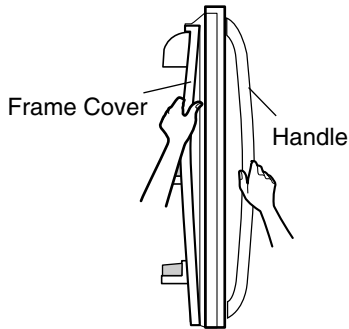
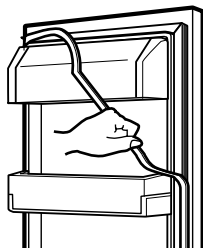

Figure 1
Figure 3
1. Disconnect water supply tube by pushing back on the disconnect ring (4).-FIG. 1
2. Open door. Loosen top hinge cover screw (1).
- Use flat tip screwdriver to pry back hooks on front underside of cover (3). Lift up cover.
3. Disconnect door switch wire harness (2).
5. Disconnect the three wire harnesses (5). Remove the grounding screw (6).
6. Rotate hinge lever (7) counterclockwise. Lift top hinge (8) free of hinge lever latch (9).
▶ Right Door -FIG. 3
1. Open door. Loosen top hinge cover screw (1). Lift up cover (2).
3. Disconnect wire harness (3).
4. Remove the grounding screw (4).
5. Rotate hinge lever (5) clockwise. Lift top hinge (6) free of hinge lever latch (7).